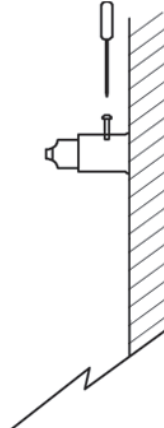

FIG. 5
8. The first person holds the radiator in the correct location and the second person then attaches part C of the bracket to part B of the bracket using the M6 bolt provided (see FIG. 5).